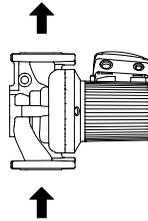

Fig. 1 Horizontal motor shaft
Install the pump with the motor shaft in horizontal position. See fig. 1.
Figures 1 and 2 in the appendix show the possible connections:
- Figure 1 shows the electrical connections when using external pulse contacts for start or stop.